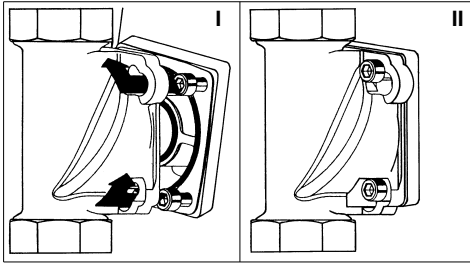

Fig. 7: Built-in rotary flange with bayonet fixture
- Position it on the built-in rotary flange so that the screw heads pass through the bayonet fixing drill holes (see Fig. 7 I).
- Tighten the four cylinder head screws M6x25 (see Fig. 7 II).